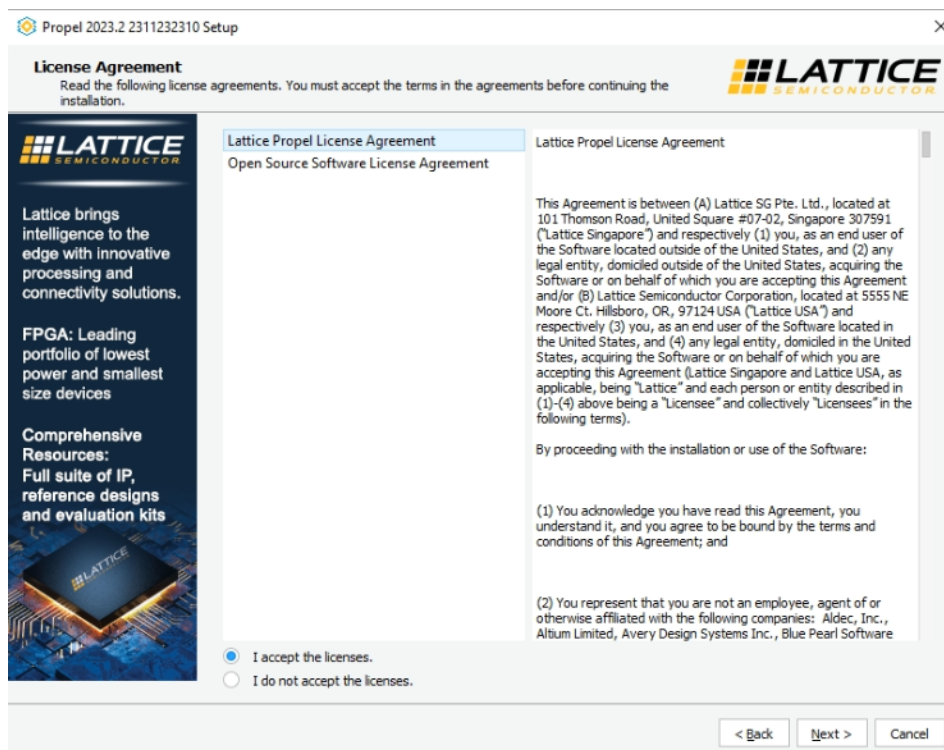
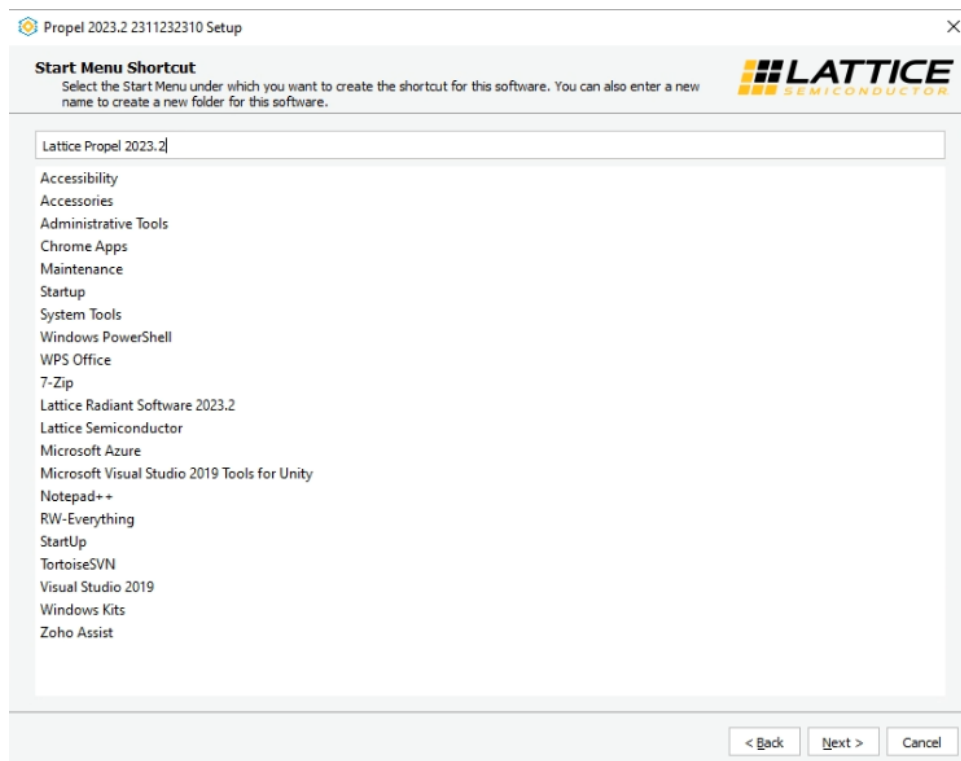

Figure C.6. Accept the License
Figure C.7. Start Menu Shortcut
3. Select **I accept the license** and click **Next** as shown in Figure C.6 to Figure C.7.